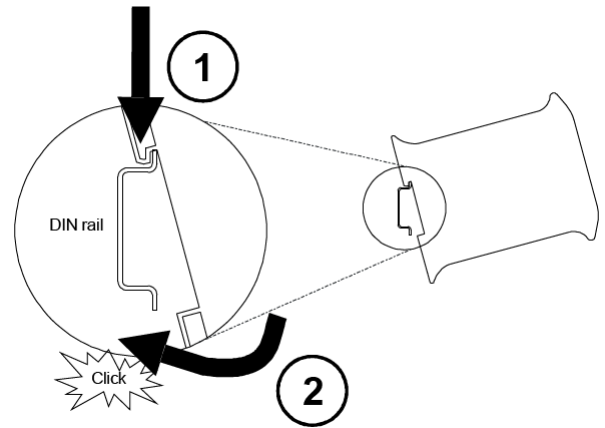

Figure 2-1: DIN rail mounting
To mount the module on a DIN rail, slot the top part of the EGCP2-GCP-LSIM into the upper guide of the rail (1) and lower the enclosure until the bottom of the red hook clicks into place (2) (refer to Figure 2-1).